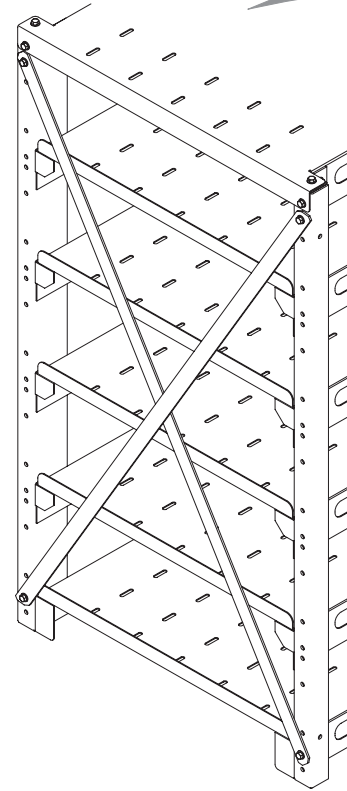

Figure 7.6a - Rear view of rack
- Install the rear cross braces per Figure 7.6a.